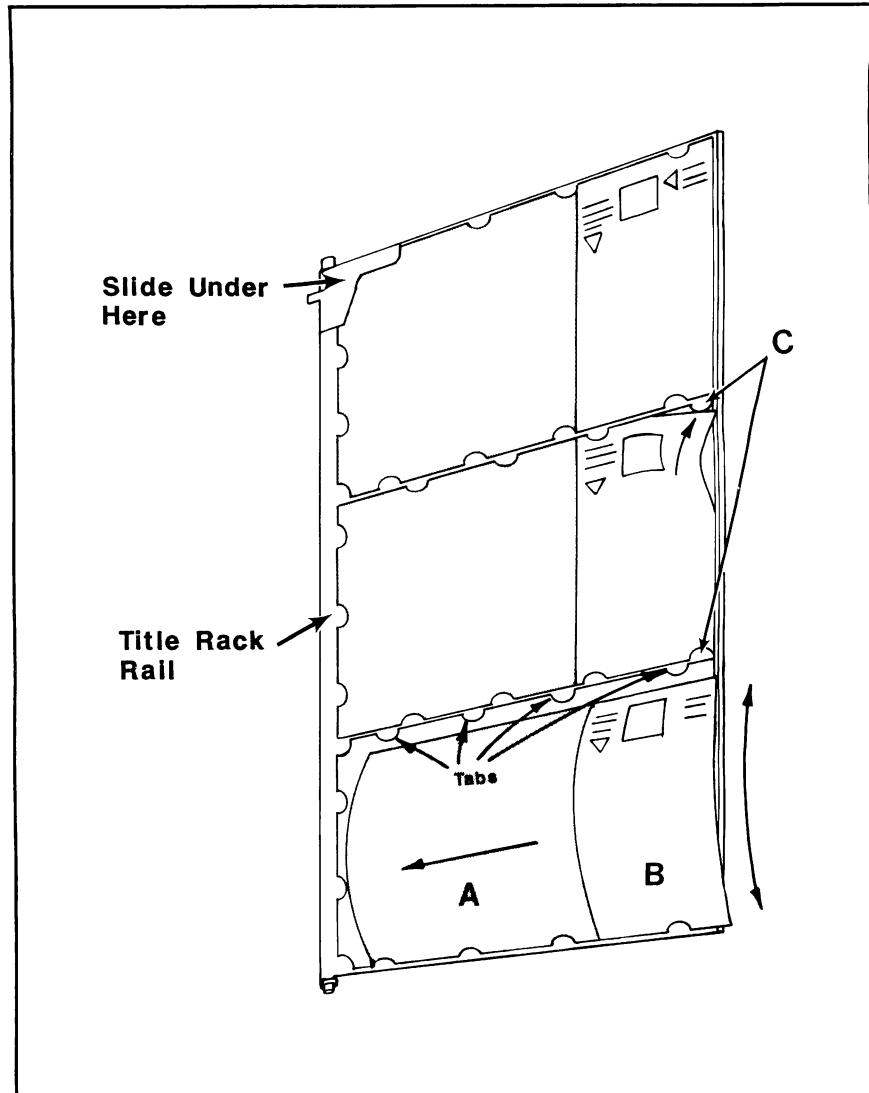

Figure 3-5. Loading the Title Rack
5. Insert the CD booklet under the top and bottom tabs of the title rack. Slide the CD booklet toward the pivot of the title rack until the booklet is trapped by the molded stops on the title page (see *figure 3-5*, ref A).
6. Insert the folded title strip under the top and bottom tabs of the title rack. Slide the title strip until the disc number shows in the opening of the title strip and the title strip is locked in place by the molded stops (*see figure 3-5, ref B*).
7. All of the tabs surrounding the CD booklet and title strip should be holding them in place. If you missed a tab, carefully tuck the loose paper under the tab as shown in *figure 3-5, ref C*.